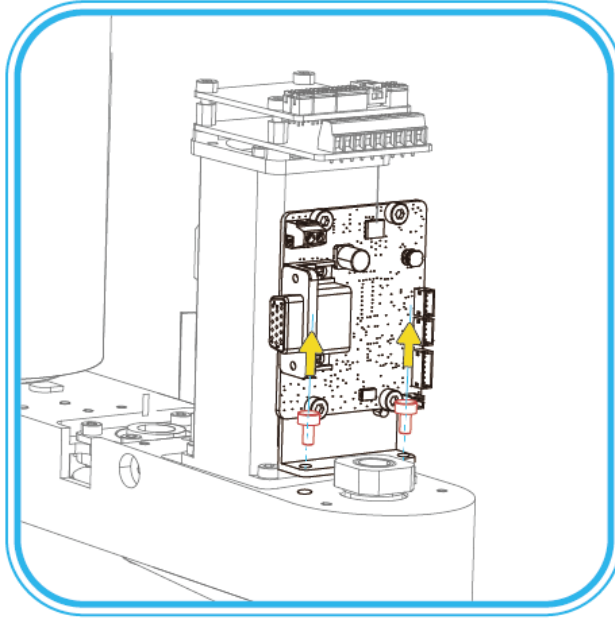

Figure 7.11 Remove the I/O fixing plate
4. Loosen the two M3*6 hexagon socket head cap screws from the I/O fixing plate, as shown in Figure 7.11.